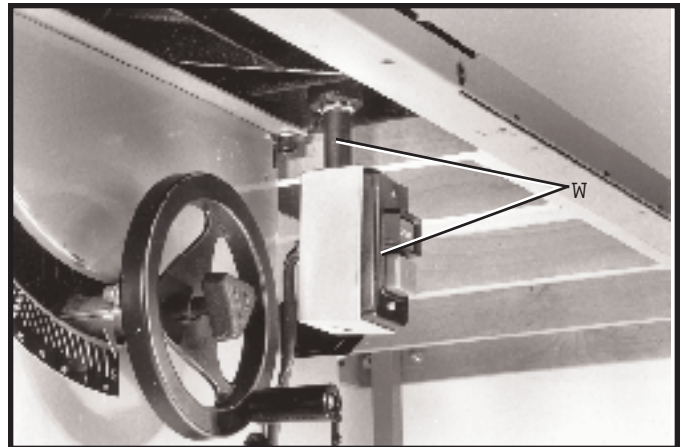

Fig. 17
14. If you are assembling the T-Square[®] fence to a Delta Unisaw[®] that has the on-off switch (W) Fig. 17, suspended from the bottom of the saw table, as shown, remove the switch and nipple (W) from the bottom of the saw table.